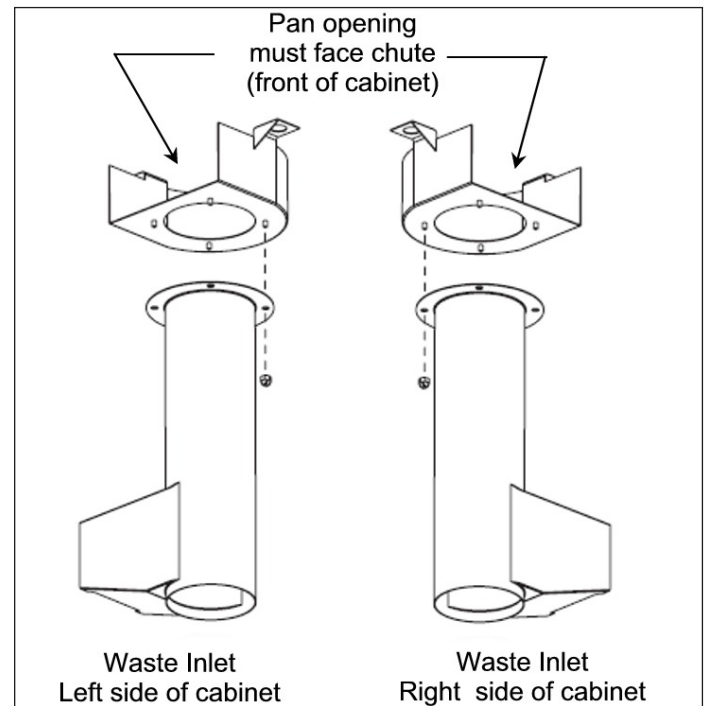

Figure 10. Reversing Auger Screen
2. Remove four (4) nylock hex nuts (Figure 10).